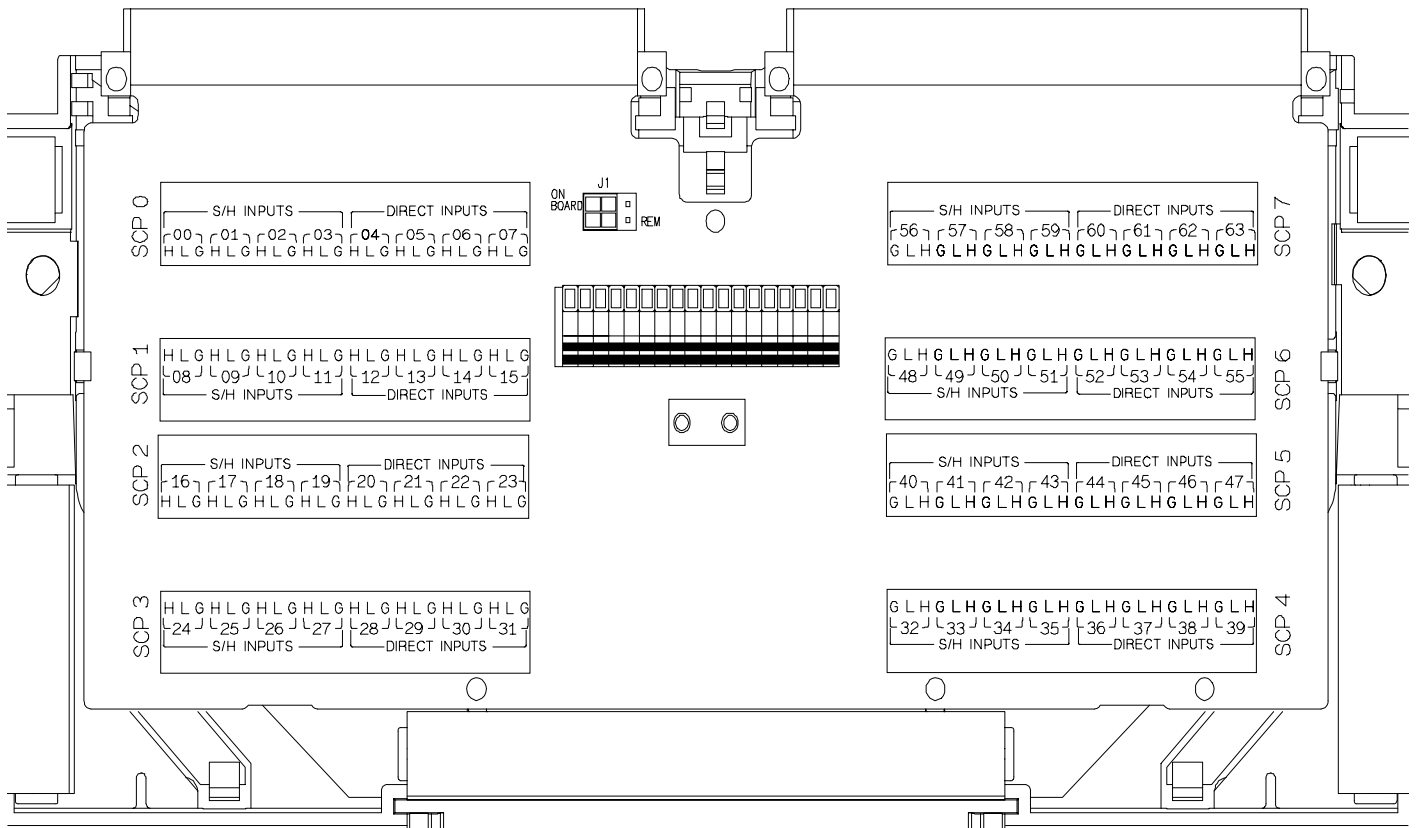

Figure 2 HP E1510 C-Size Terminal Module Connections
- For HP E1413C and above Terminal Modules, use stickers for HP E1510 SCPs. The connections are shown in Figure 2.